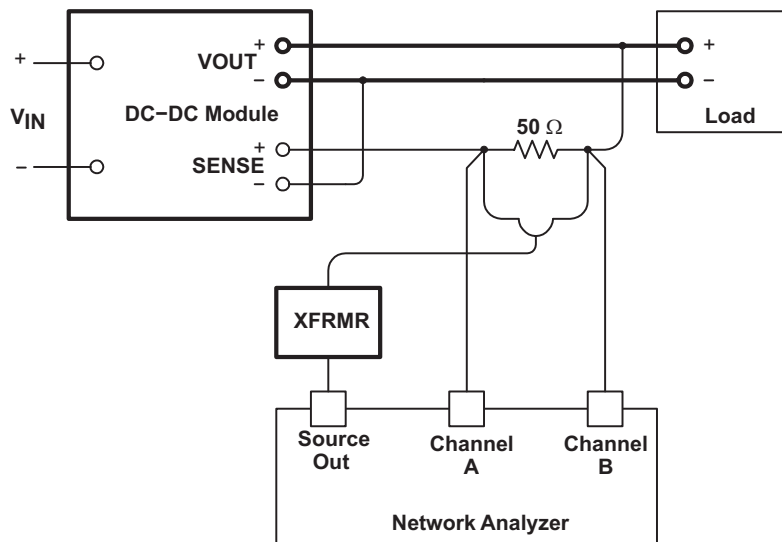
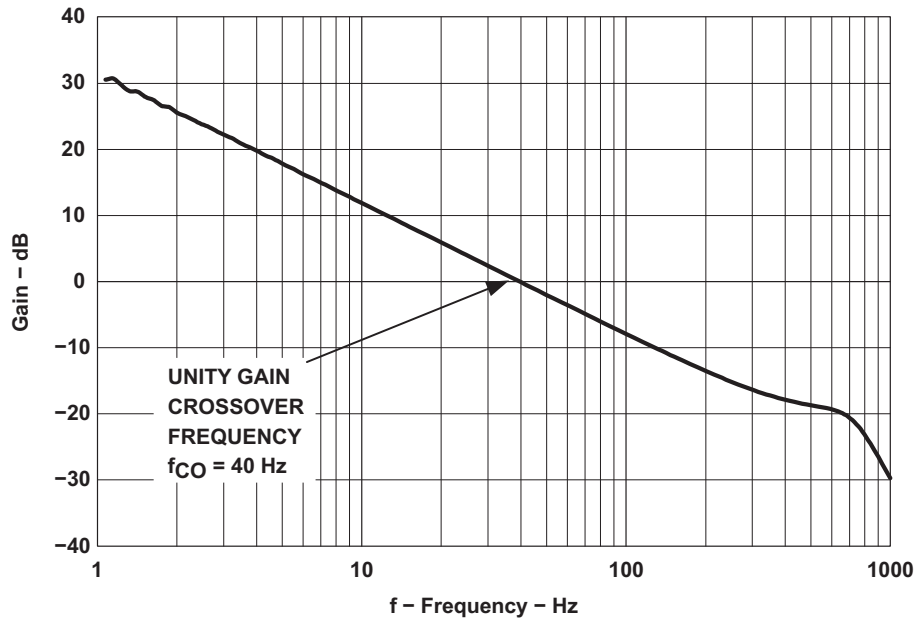

Figure 7. Unity-Gain Crossover Frequency Measurement Connection Diagram
Figure 8. Power Module Bode Plot
Using the configuration in Figure 7, measure the unity-gain crossover frequency of the power modules to be paralleled. A typical resultant bode plot is shown in Figure 8.
The total load-share loop unity-gain crossover frequency,  $f_{CO}$ , must be set at least one decade below the measured crossover frequency of the paralleled modules previously measured,  $f_{CO(module)}$ . (See Figure 8) Compensation of the transconductance error amplifier is accomplished by placing the compensation resistor,  $R_{EAO}$ , and capacitor,  $C_{EAO}$ , between EAO and GND. The values of these components is determined using Equation 8 and Equation 13.
- $G_{MODULE}(f_{co})$  is the measured value of the gain from Figure 8, at the desired crossover frequency. (12)